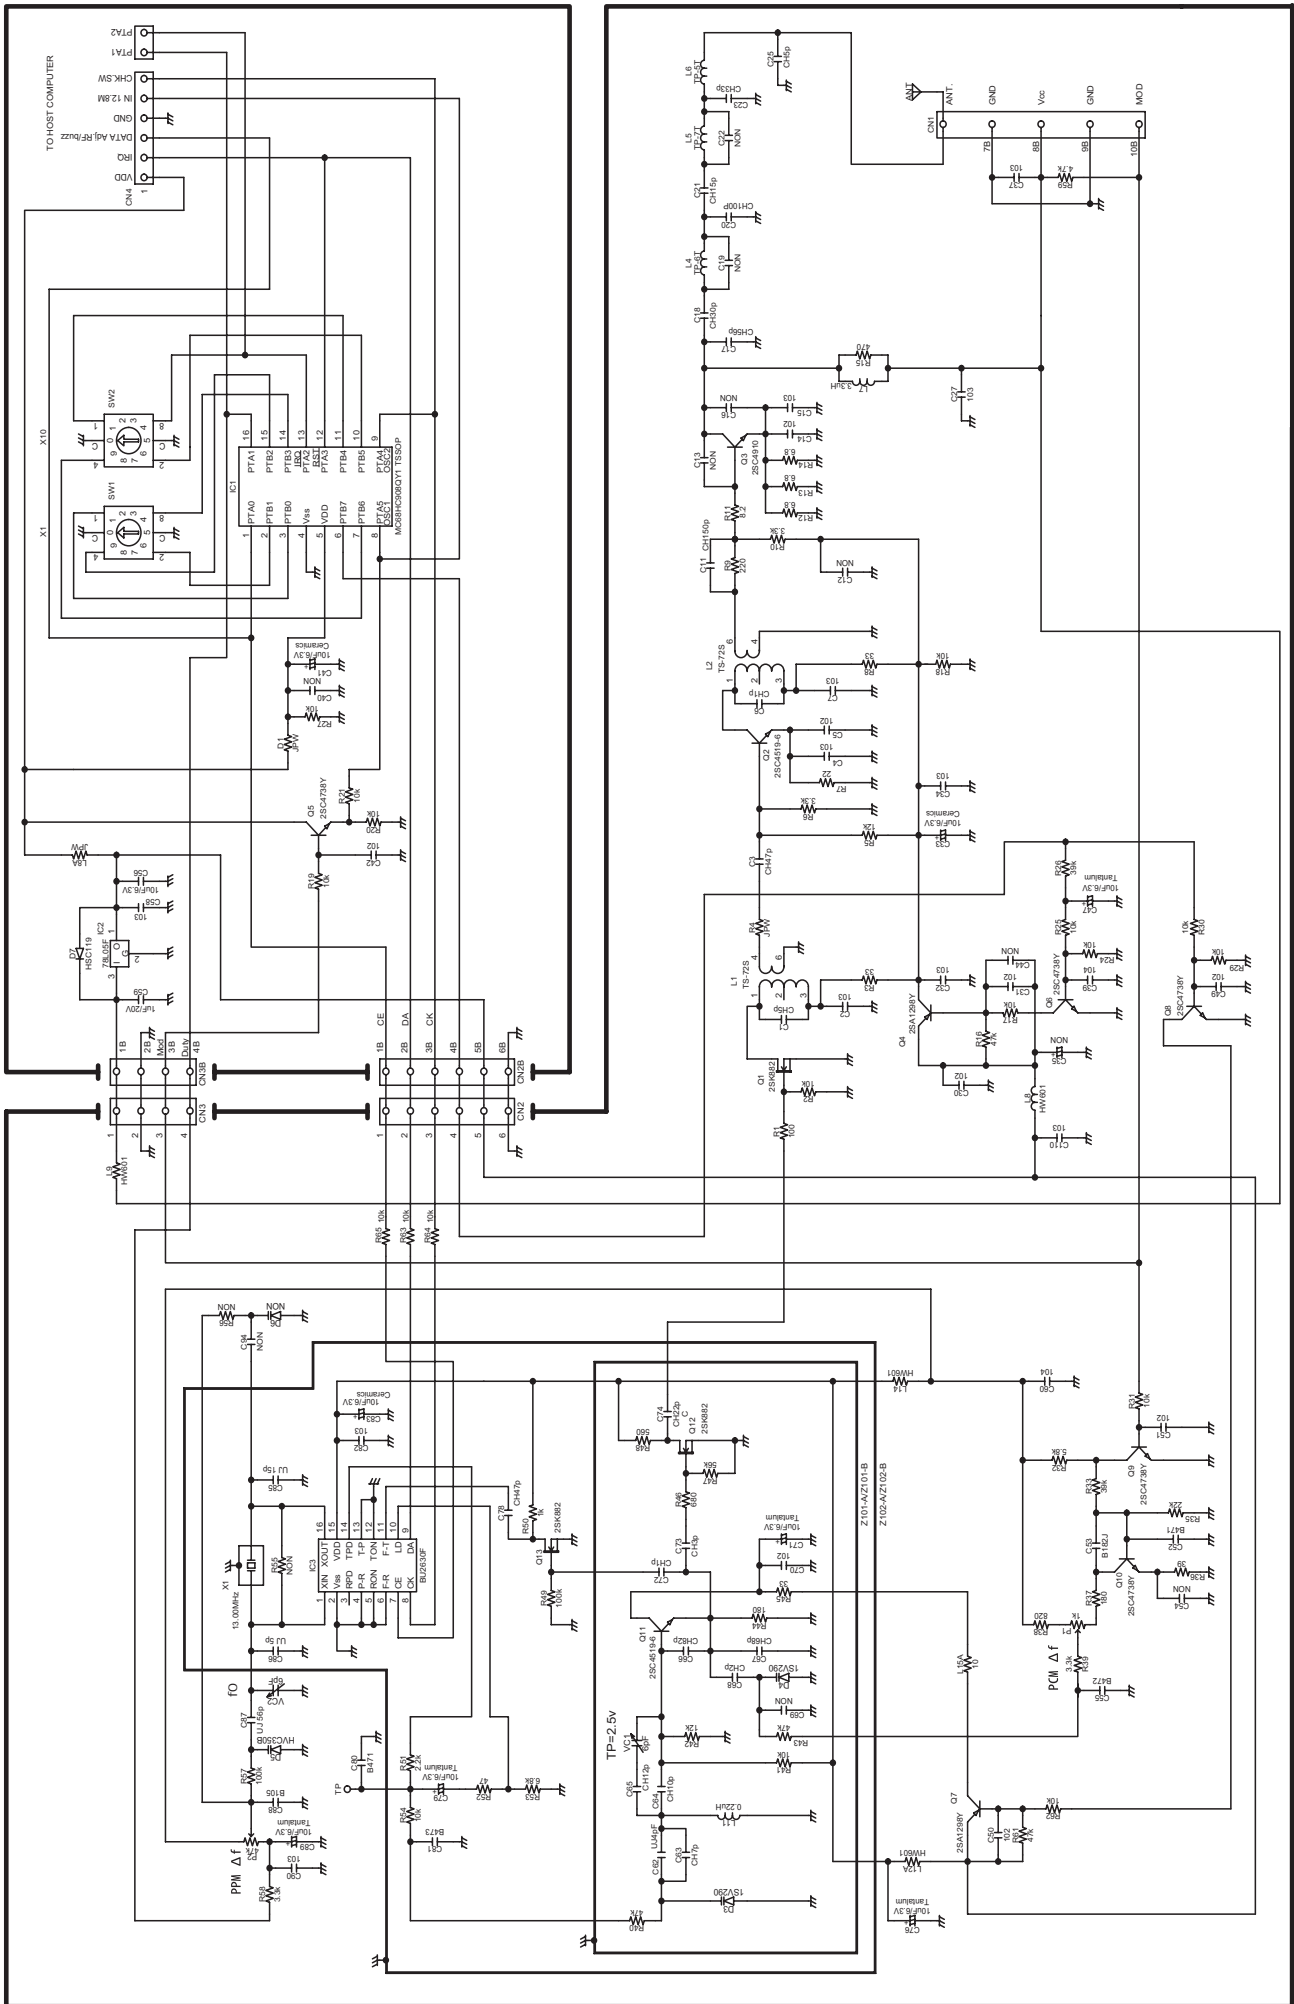

Figure 5.2.2 Transmitter Schematic Diagram
2. Refer to transmitter schematic Figure 5.2.2. Soften bee's wax on cores in L1, L2, L3, L4 ,L5 and L6. Using oscilloscope with small 50 ohm loop, starting at L1, adjust these cores for maximum oscilloscope reading. Repeat this tuning sequence until no further increase in oscilloscope reading can be obtained.